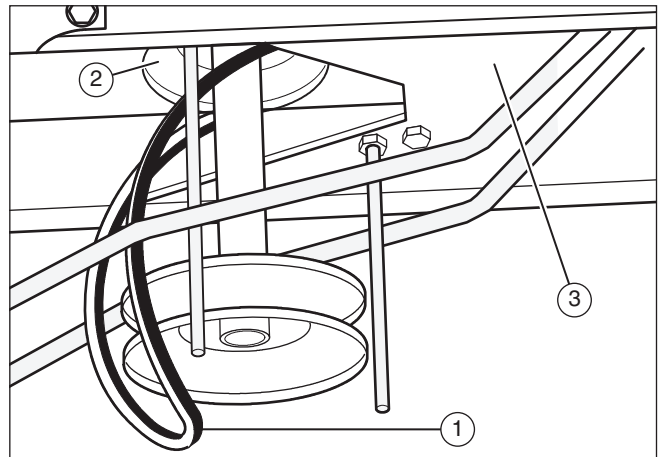

Figure 34
8. To remove the motion drive belt (1) from the stack pulley (2), pull the front end of the belt under the stack pulley and then back between the stack pulley and the steering plate (3) (see **Figure 34**).
- Pull the belt retainer (1) away from the idler pulley (2) and remove the mower drive belt (3) (see **Figure 34**).